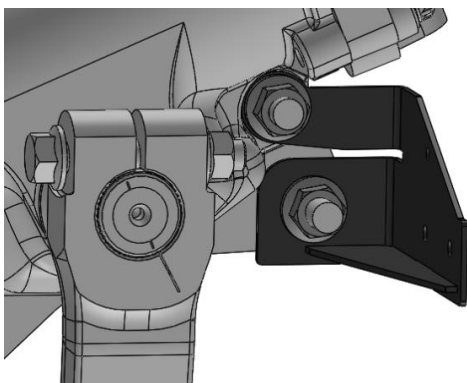

Figure 35. Secure Steering Mount to Gear Box.
2. Place the Steering Mount on the gear box. Reattach the 5/8" nuts to secure Steering Mount to the steering gear box as shown in Figure 35. **Torque to 172-210 ft-lbs.**